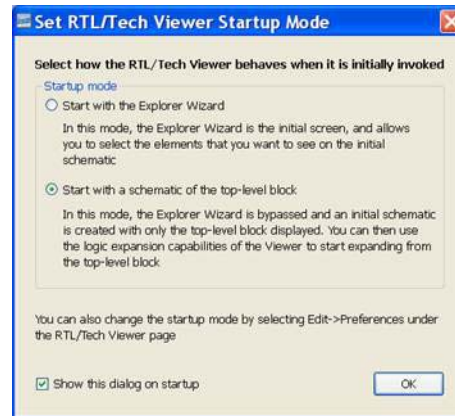

Figure 5-20: Startup Modes
3. Select the **Start with a schematic of the top-level block** startup mode and press the **OK** button as shown in Figure 5-20: